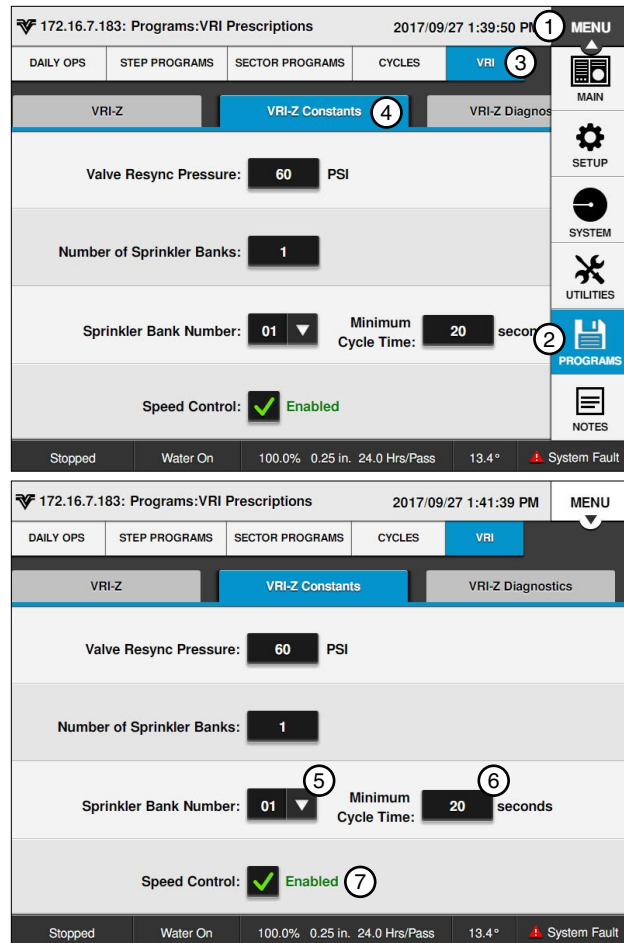

Figure 166-1 1. Menu
1. Push **Menu**, **Programs**, **VRI**, and **VRI-Z Constants** to display the VRI-Z Constants screen. Refer to Figure 166-1.
3. Select the **Min Cycle Time (seconds)** field, and enter the minimum cycle time value using the numeric keypad. The range is 1-999 seconds. The default is 20 seconds. Refer to Figure 166-1.